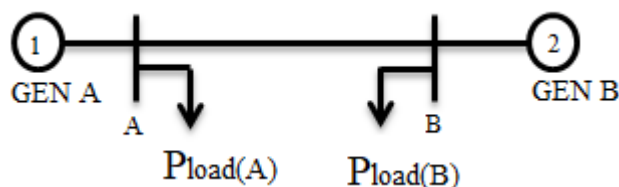

fig. 5(a)
- b) Obtain B coefficients for the system shown in fig 5(b). (take up to 3 decimals) 10